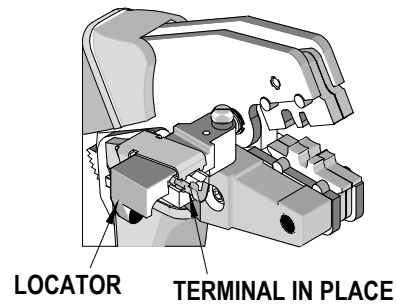

Figure 2
4. Press down on the wire stop on the locator as shown in Figure 2.